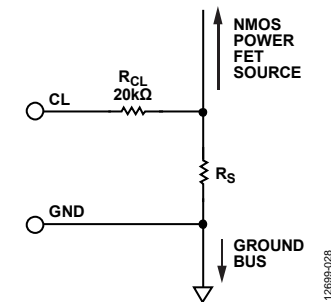

Figure 32. Recommended R_S Kelvin Ground Connection
- From the ground connection shown in Figure 32, connect the following: